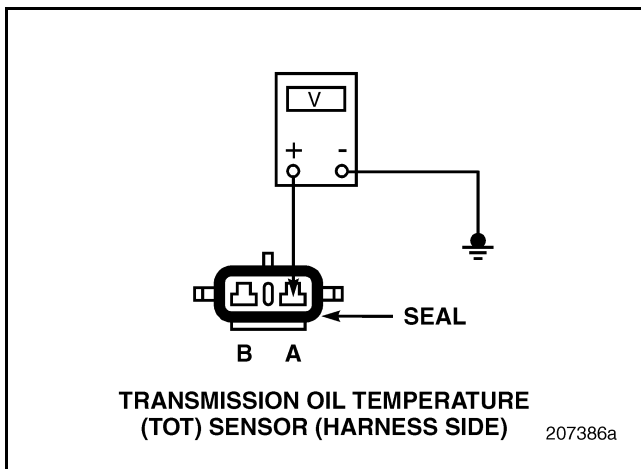

Figure 226
3. Measure the voltage between TOT Sensor harness connector pin A and a good ground (see Figure 226).